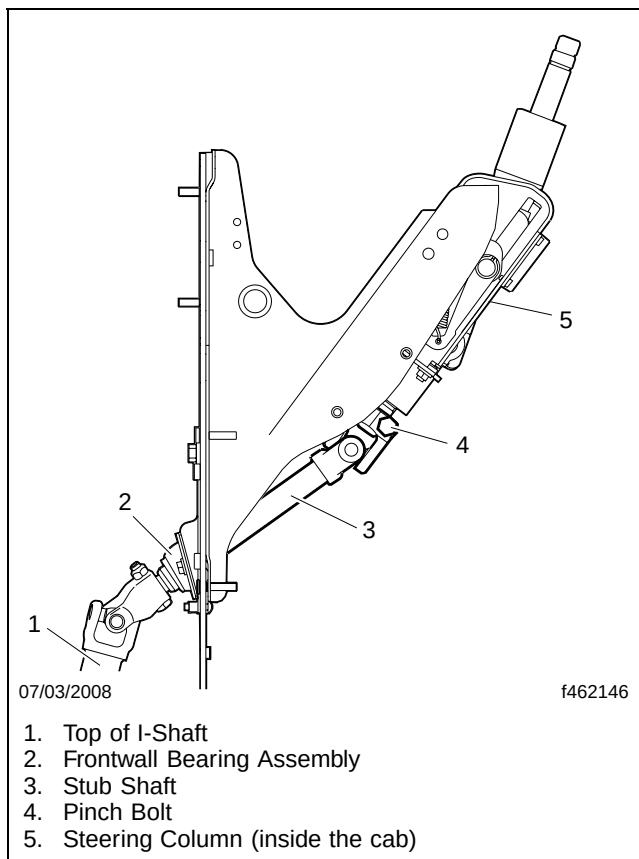

Fig. 5, Stub Shaft Installation, Side View
28. Install the new stub-shaft, and fit a new pinch bolt and nut in the U-joint; as shown in **Fig. 5**. Tighten the nut 30 to 35 lbf·ft (41 to 47 N·m).